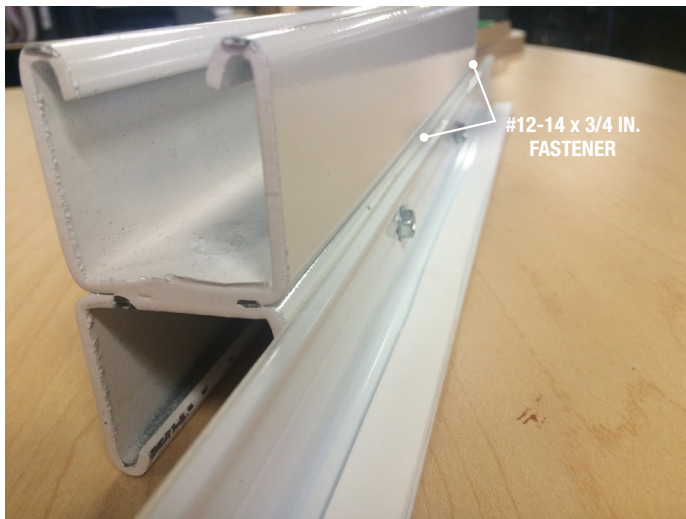
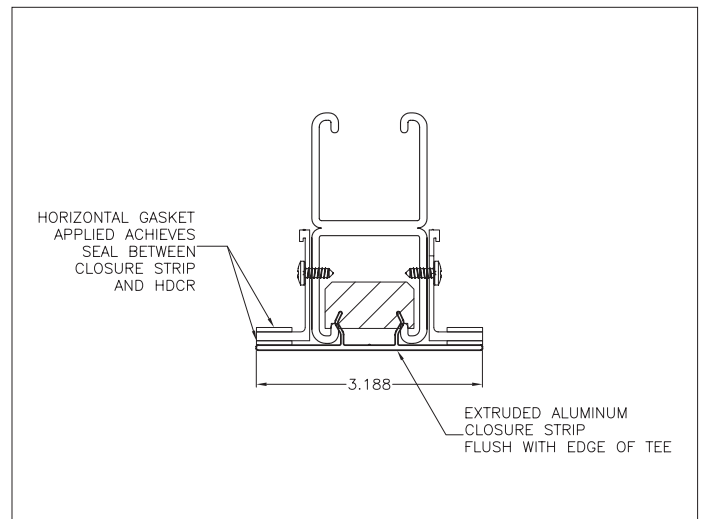

Figure 13. Unistrut and Price Half Tee Installation
Figure 14. Cross Sectional Detail of Unistrut, Closure Strip, and HGWC Half Tee
Step 9: Where ceiling system integrates with Unistrut, screw/drill the Price supplied half-tee to the Unistrut using contractor provided self-tapping screws (recommend #12 – 14, 3/4 in. long), **Figure 13**. The height of the tee will be detailed and called out by the medical equipment manufacturer, typically ranging from flush to 1/2 in. recess. Due to the thickness of the gasket, Price recommends a minimum recess of 1/16 in. Additional details are shown below in **Figure 14**.